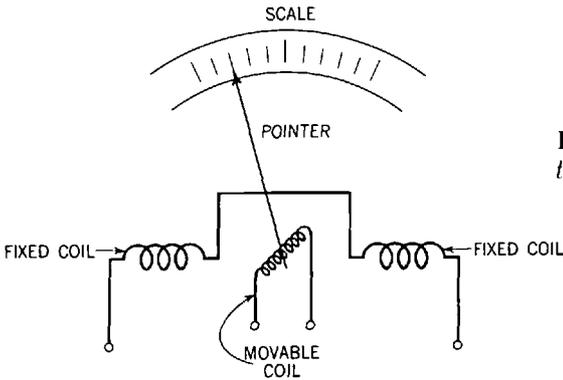

Fig. 32-25. Diagram of the dynamometer principle.
**Dynamometer Type of Meter.** Another type of alternating-current meter employs the *dynamometer principle*. This meter resembles the direct-current wattmeter, having a fixed field coil and a movable armature coil (Fig. 32-25).